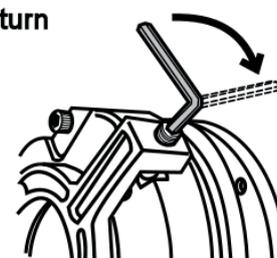

FIG. A5
1. Release the brake (Fig A5) turning clockwise the screw in the lever of brake's ring.
If the equipment requires a band saw adjustment, you will need to release the pulley. Use a 5/32" allen wrench (included) and turn the screw (see Fig A5) clockwise a whole turn.